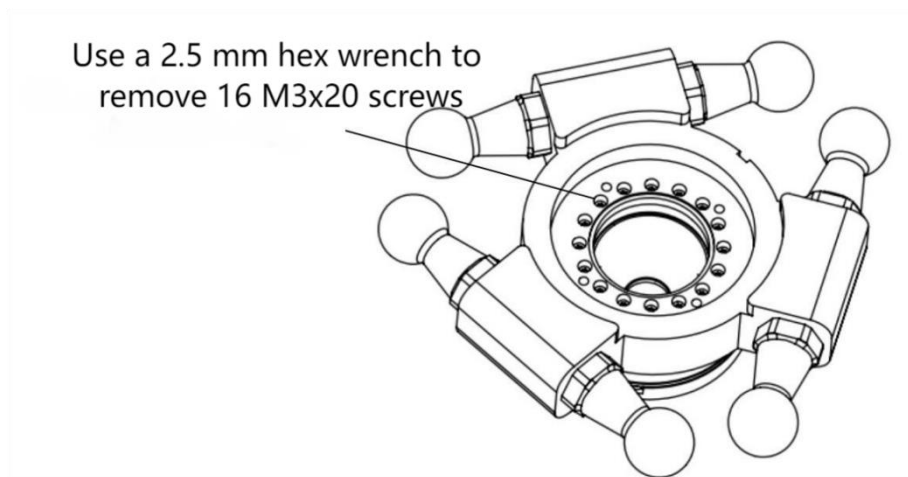

Figure 3-26 Remove the fixed screw of the reducer
Step 2 As shown in Figure 3-26, remove the 16 M3x20 reducer fixing screws with a 2.5mm hex key to remove the reducer.